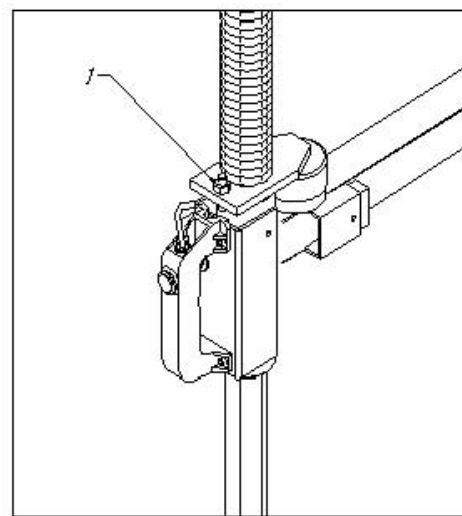

Figure 12-4
It is necessary to adjust the screw (1) in the locking plate of the mounting arm, if the mounting head doesn't lock or it doesn't rise from the rim of 2mm necessary for working. (figure 12-4)